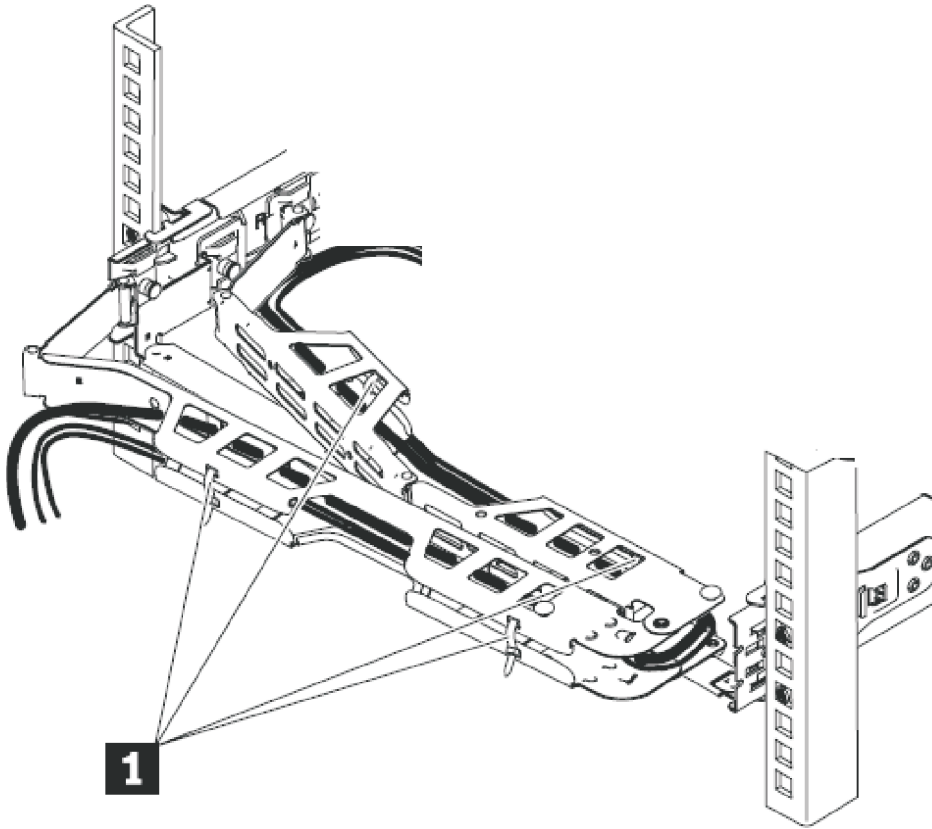

Figure 29. Connecting and routing the cables
- a. Route the data cables and power cords on the cable-management arm, as shown by **1** in Figure 29 on page 30.